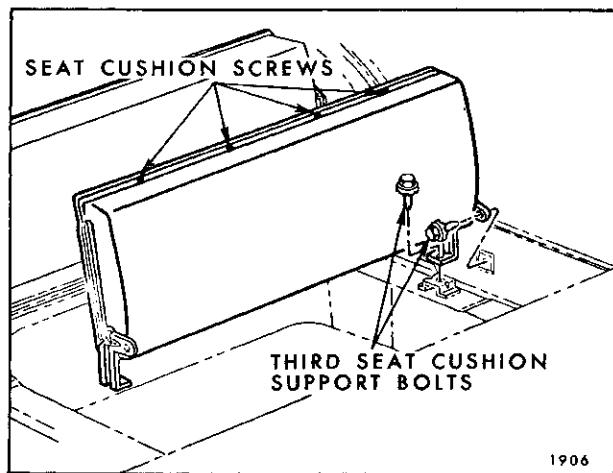

Fig. 15-57—Folding Third Seat Cushion
1. Lift third seat cushion to half raised position or approximately vertical to floor pan (Fig. 15-57).
- Remove four seat cushion screws from rearward edge of cushion (Fig. 15-57).
- Lift third seat cushion to a half raised position or approximately vertical to floor pan. (See Fig. 15-57).
- Remove two bolts at each side of seat securing supports to body (Fig. 15-57), then, remove seat cushion, panel assembly and supports from body and place on a clean protected surface.